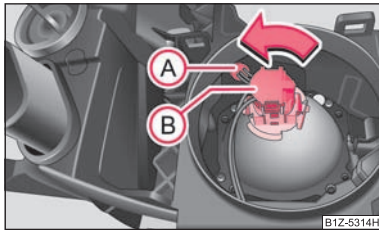

Fig. 195 Removing the bulbs for the parking and low beam light
- Remove the socket (A) ⇒ fig. 195.
- Turn the connector with the light bulb (B) up to the stop towards the left and remove ⇒ fig. 195.